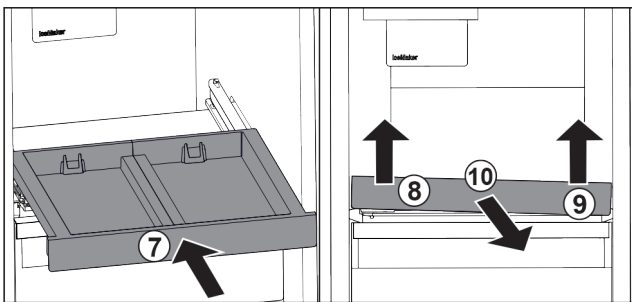

Fig. 106
- ▶ Slide in the pull-out board. Fig. 106 (7)
- ▶ Lift the pull-out board on the front left. Fig. 106 (8)
- ▶ Lift the pull-out board on the front right. Fig. 106 (9)
- ▶ Take out the pull-out board to the front. Fig. 106 (10)